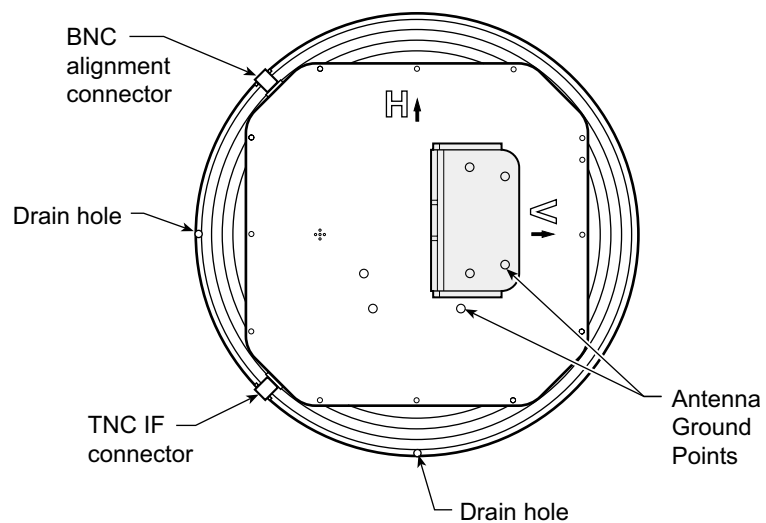

Figure 6-5. Mounting Horizontally Polarized ODU
- Line up the bolts in the antenna with the four holes in the mounting bracket as shown in Figure 6-5.